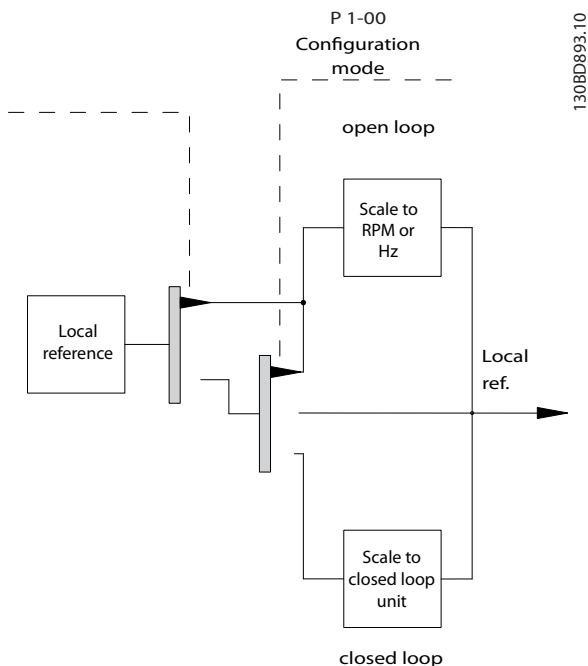

Figure 2.14 Configuration Mode
- *Figure 2.14* illustrates manual configuration mode for local reference.